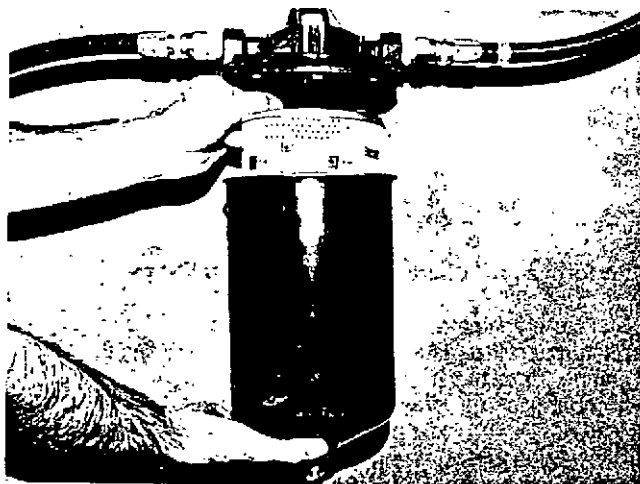

Fig. 5-13, V11910. Installing replaceable fuel filter element
2. Loosen nut at top of fuel filter. Take out dirty element, clean filter case and install a new element. Fig. 5-13.